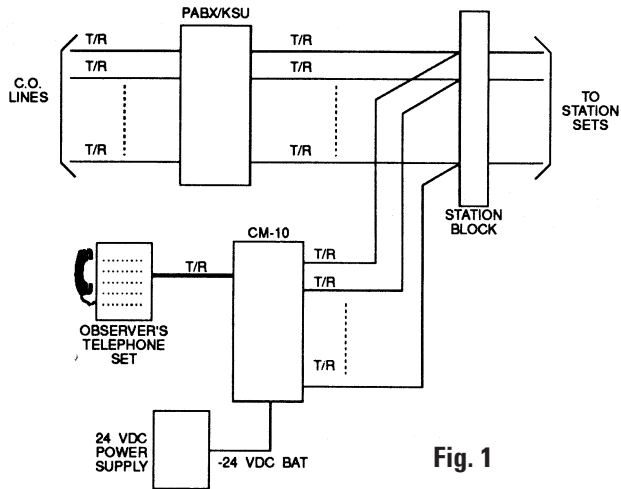

Fig. 1
- 2.02 **10 Line Capacity** through a key system telephone or a single-line telephone designated as the observer's telephone. When a key system telephone is used, one pick-up key is dedicated for call monitoring. When a single-line telephone is used, the station is dedicated for call monitoring purposes only. Figure 1 and 2.